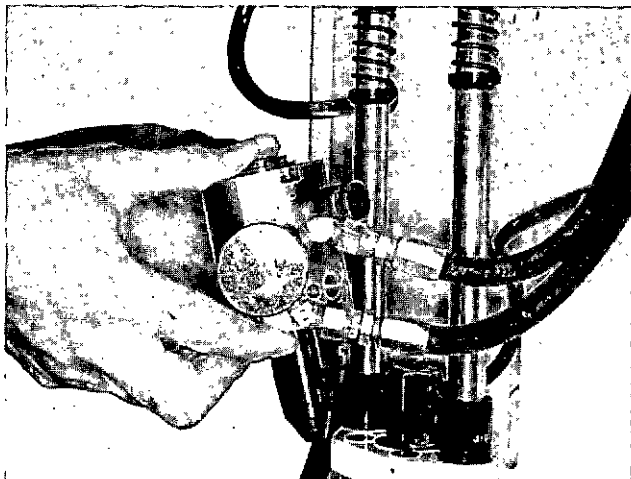

Fig. 4-60, (F60213). Check leakage at the inlet port
- b. Hold the injector plunger down against its seat in the injector cup with the injector in a vertical position. The assembly may be held by hand. Do not place it in the test stand holding device. Fig. 4-60.